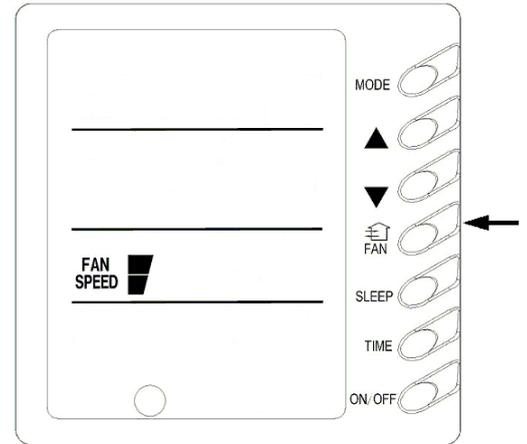

Fig.3
**2 ) Fan Control (Fig.3 is about display region and the same as following figures.)**